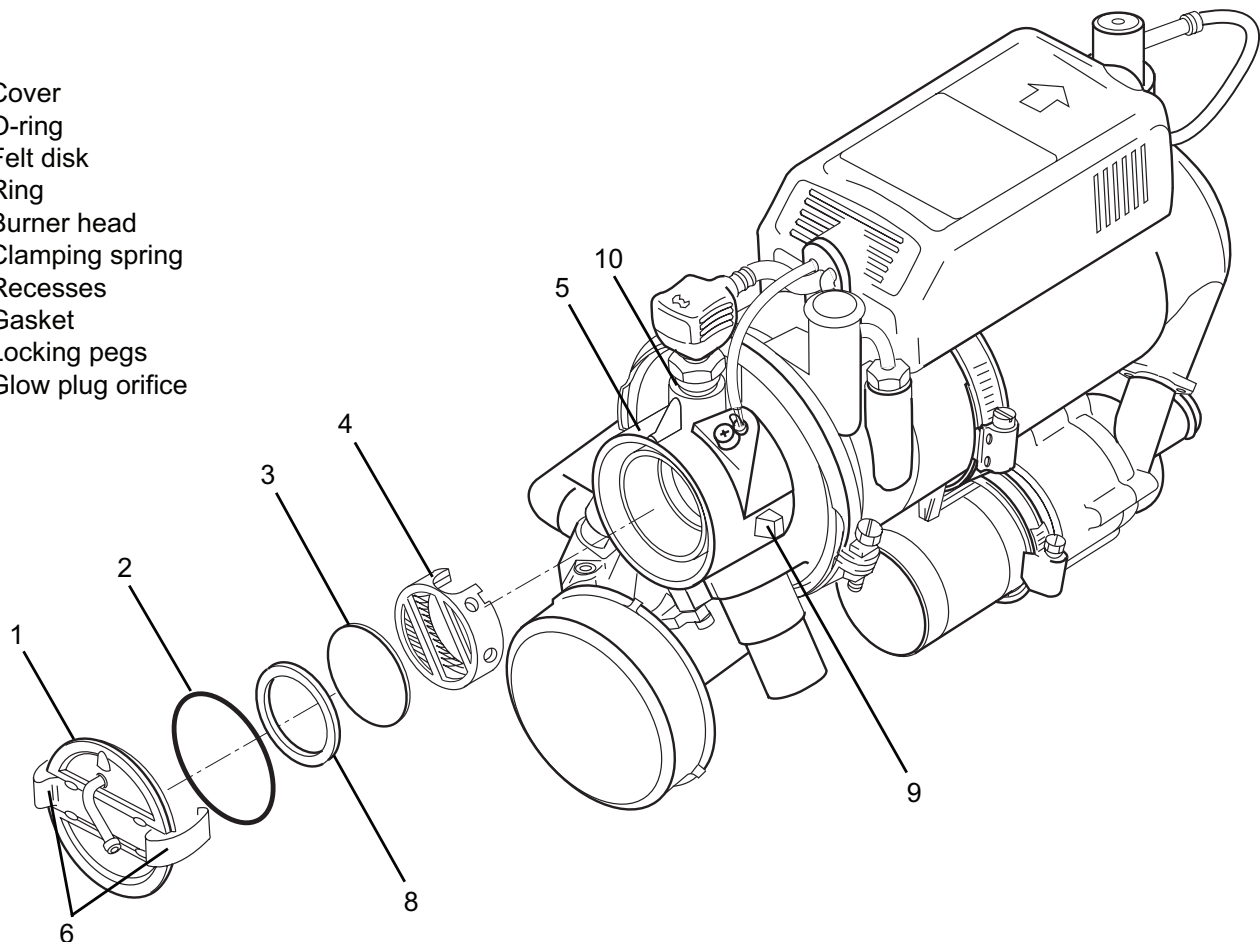

Fig. 908 Removal of Felt Disk in Burner Head
2. Press clamping spring (6, Fig. 908) from locking pegs (9) using screw driver.
3. Engage two screw drivers in recesses (7) and lever off cover (1).
4. Discard O-ring (2) and gasket (8).
5. Remove felt disk (3) and ring (4) from burner head (5) and discard.
7. Clean glow plug orifice (10), diameter 2.5 mm.